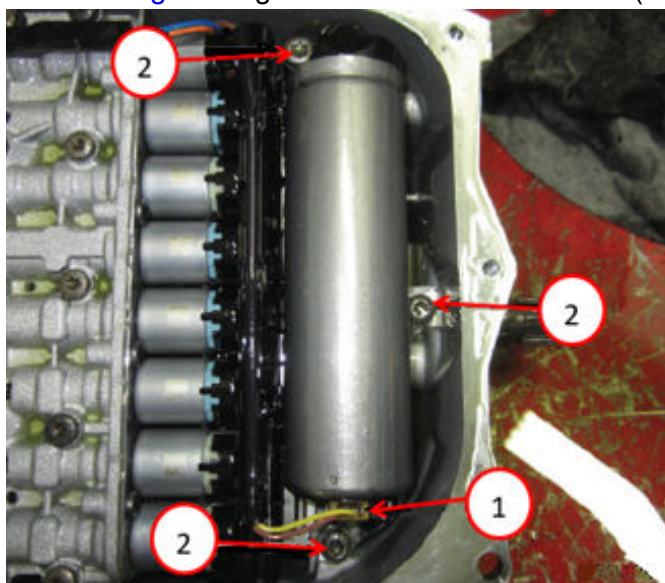

Fig. 47
69. Install the OSS and tighten the OSS bolt to 8 N-m (71 In. Lbs.) Fig. 47.